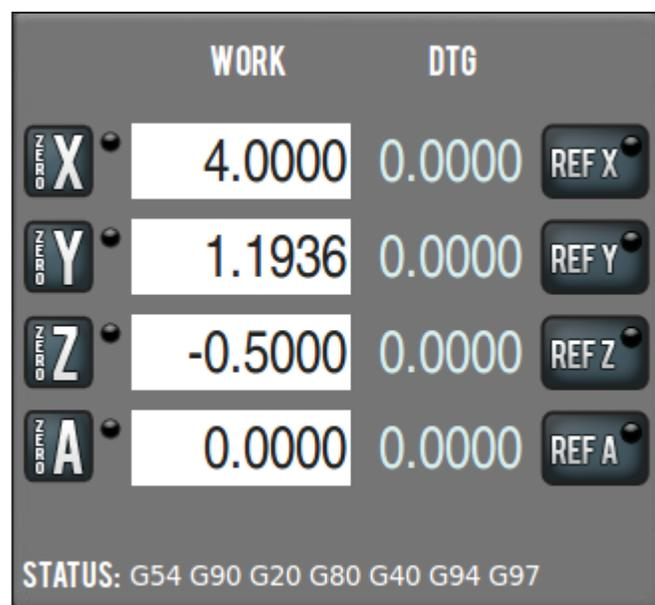

Figure 6.3
The buttons, labels, and DROs of the *Position Status Group* pertain to mill position, active G-code modalities, and feed/speed settings (see **Figure 6.3**). These controls may be used at any time before or after running a G-code program or MDI move. They are unavailable for operator input while mill is moving.
**Jog Active LEDs** – Between the *(Zero) Axis* and *DROs* are *LEDs*. If the mill is equipped with an optional Jog Shuttle (PN 30616), the active jog axis is indicated by an illuminated LED (see **Figure 6.3**).